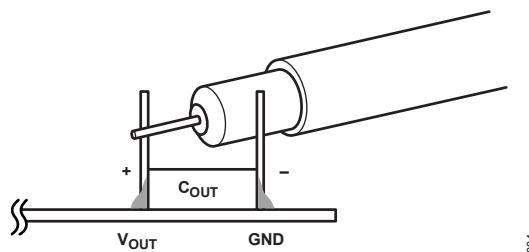

Figure 4. Proper Method of Measuring Output Voltage or Input Voltage Ripple
- If V_{OUT} at other locations or V_{IN} needs to be measured, then connect short, stiff leads to the (+) and (-) terminals of the output or input capacitor. The probe's ground ring needs to contact the (-) lead, and the probe tip needs to contact the (+) lead. See Figure 4.